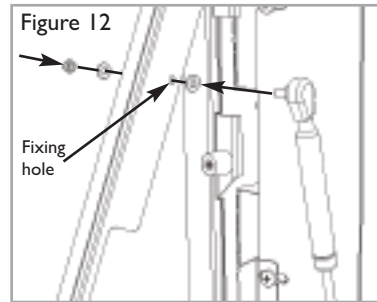

Figure 12
2) The damper top fixing is shown in figure 12. Locate the fixing hole in the glass window bracket. Place a nylon washer each side of the bracket, and affix the damper bolt using the "nyloc nut" provided. Tighten the nut and release one quarter turn. Finally check operation of damper from the fully open to fully closed positions.